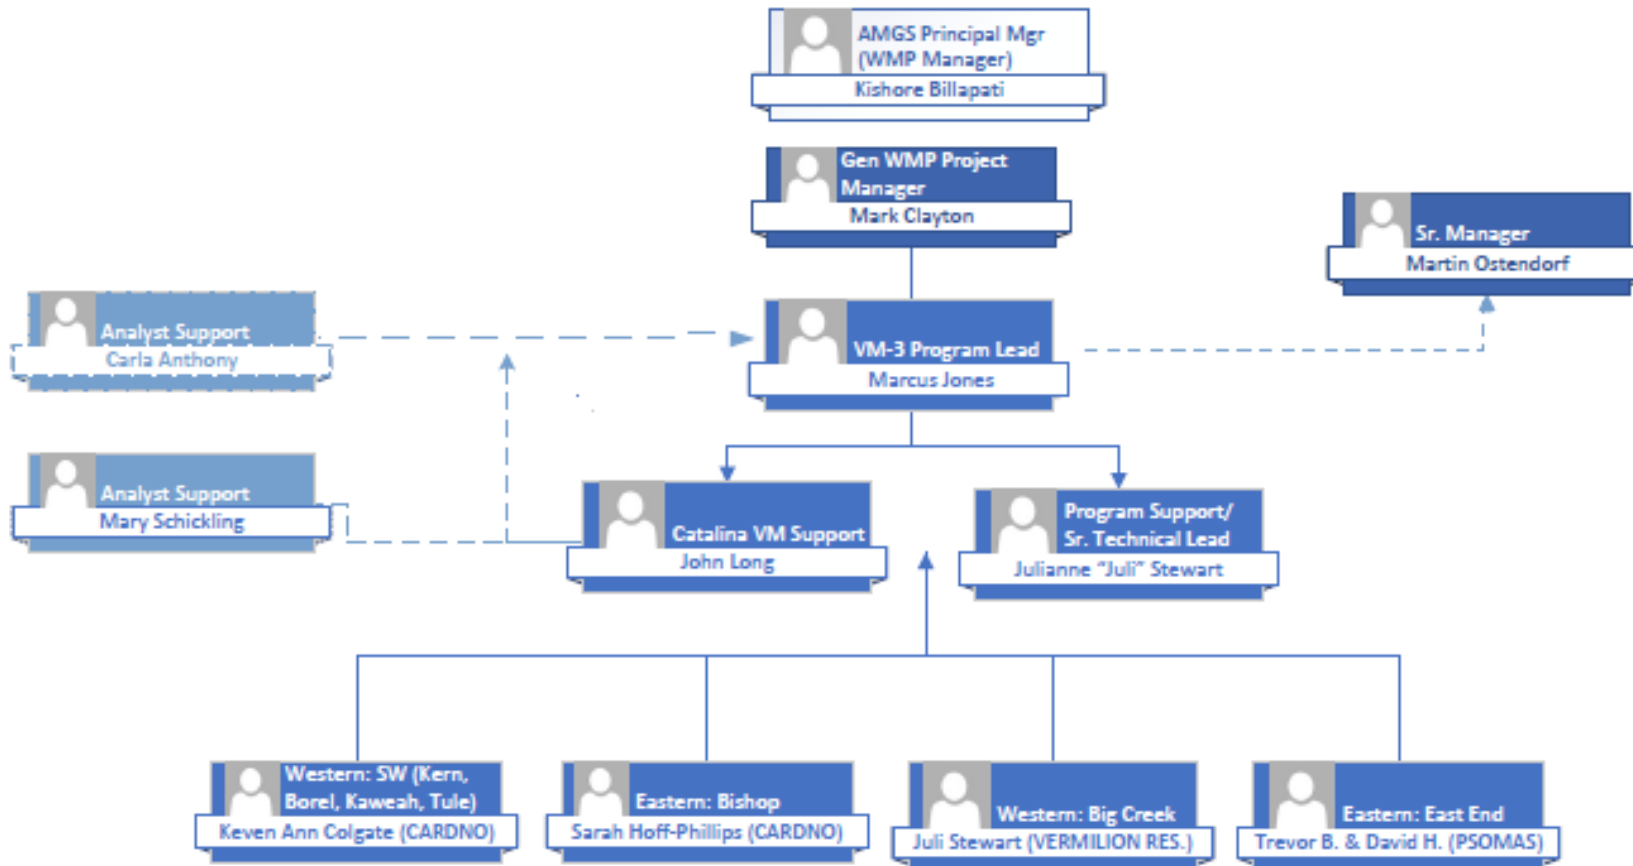

Figure 1 Organization Chart of 2021 VM-3 Program Team
- Figure 1 Organization Chart of 2021 VM-3 Program Team 3
Figure 1 summarizes the basic roles and responsibilities for the 2020 VM-3 Program Team. Contact information, including name, title, email address, and phone number(s), are provided, by AOR, in Appendix B.
- **Catalina Island.** This includes production wells, storage tanks, and pumping stations at Avalon, Toyon Canyon, Middle Ranch, Whites Landing, Blackjack, Cottonwood, Isthmus and Howlands Landing (Appendix A3, Figure 1).
- **Big Creek.** This includes the Big Creek Hydroelectric System: Big Creek 1, 2, 3, 4, 8, Mammoth Pool, Portal, Vermilion Valley, and Eastwood Power Station (Appendix A5, Figure 1).